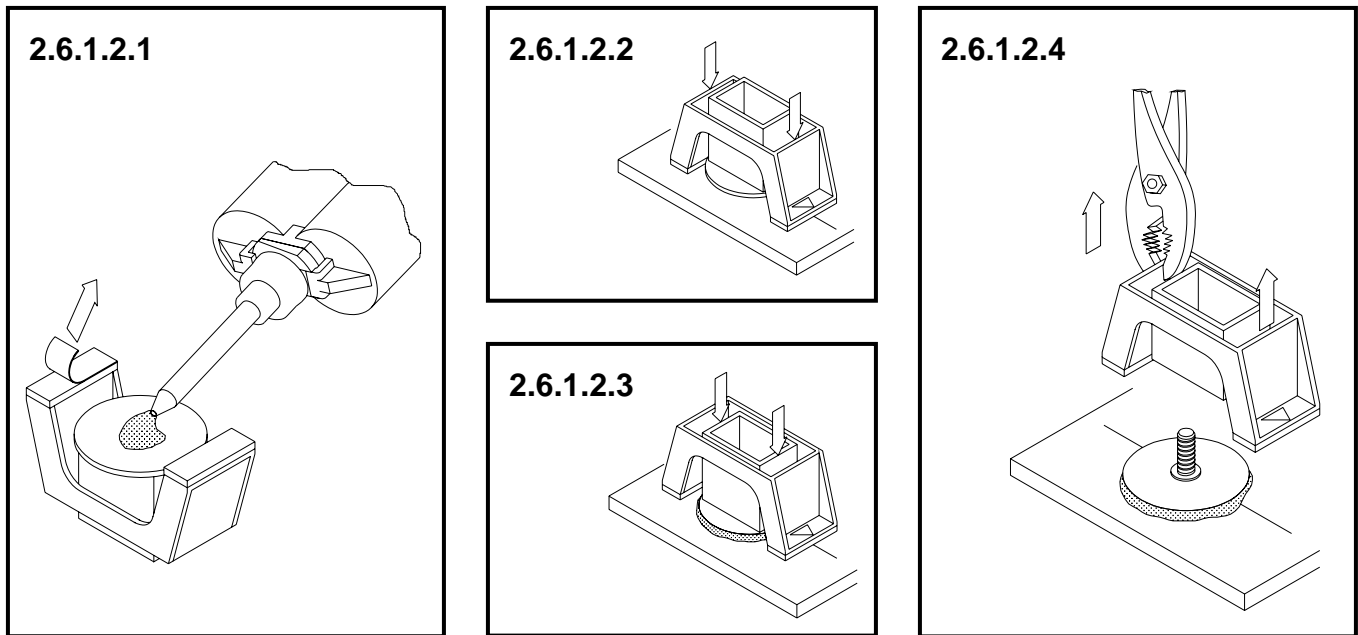

FIGURE 5. PROCEDURE FOR ATTACHMENT OF CLICK BOND FASTENER
2.6.1.1 Apply the mixed adhesive as a built up spot to the center of the stud, standoff, or cable tie mount baseplate bonding area as indicated in Figure 5. The quantity of adhesive applied should be just sufficient to provide the squeeze out of a small amount of excess adhesive completely around the circumference of the baseplate. See Table III for approximate adhesive spot diameters for each baseplate size.
2.6.1.2 Figure 5 indicates the sequential steps required to attach the Click Bond Pressure Application Fixture (PAF) to the substrate and to activate the fixture to put bonding pressure on the fastener baseplate.